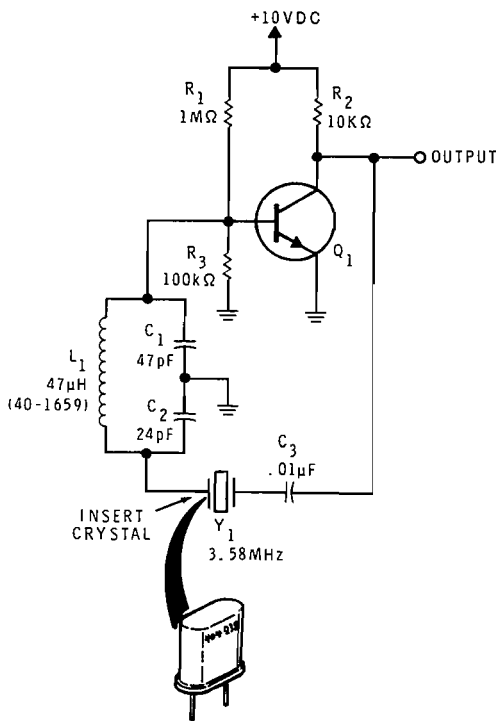

Figure 5-49
- Turn off the Trainer and connect the 3,579.545 kHz crystal in the feedback path as shown in Figure 5-49. With the crystal connected in this manner, it is operating in the \_\_\_\_\_-resonant mode.